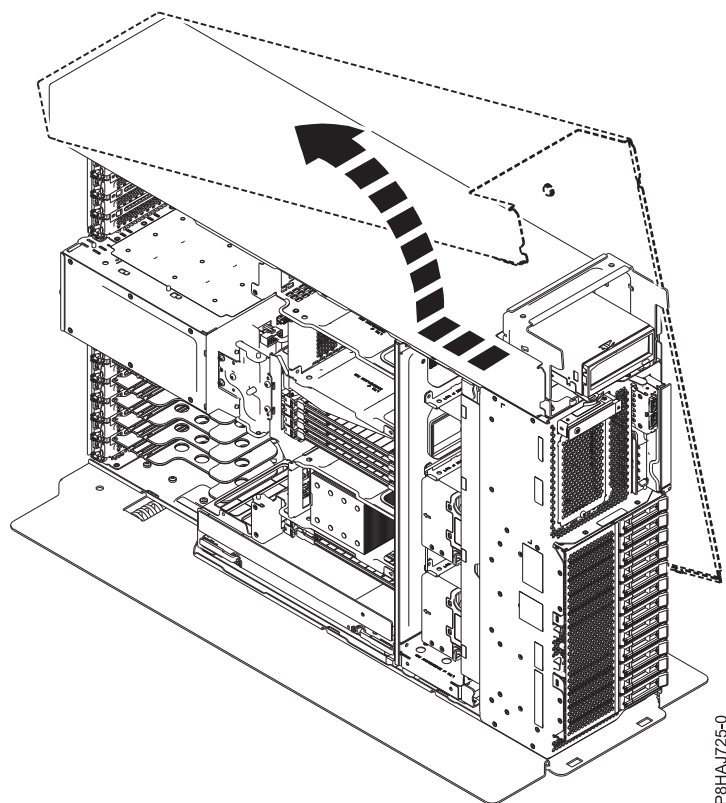

Figure 29. Removing the 8286-41A side cover
5. Slide the side cover off of the system in the direction that is shown in Figure 29 on page 46.